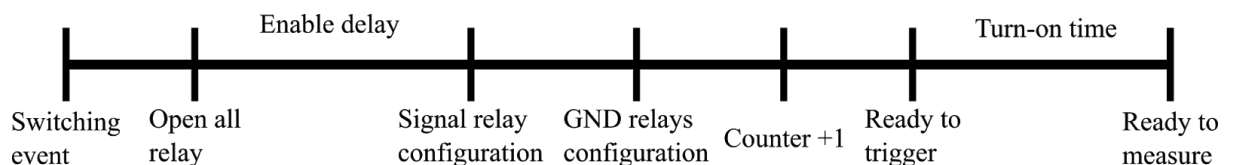

Figure 9: time diagram of the operations after switching event, items 7 a to 7 e. The Enable delay must be larger than the maximum turn-off time of the relay.
7. Switching event (see figure 9):